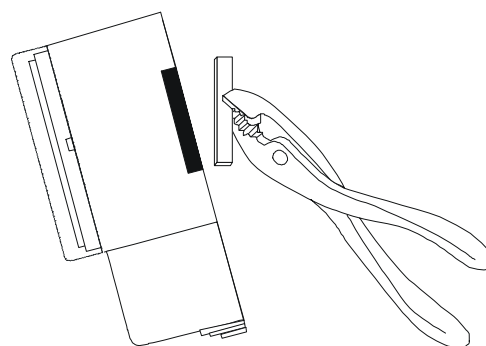

Figure 4: Removing the DIN Rail Break-away Tabs
4. Using blunt-nosed pliers, remove the break-away tabs from the housing. (See Figure 4.)